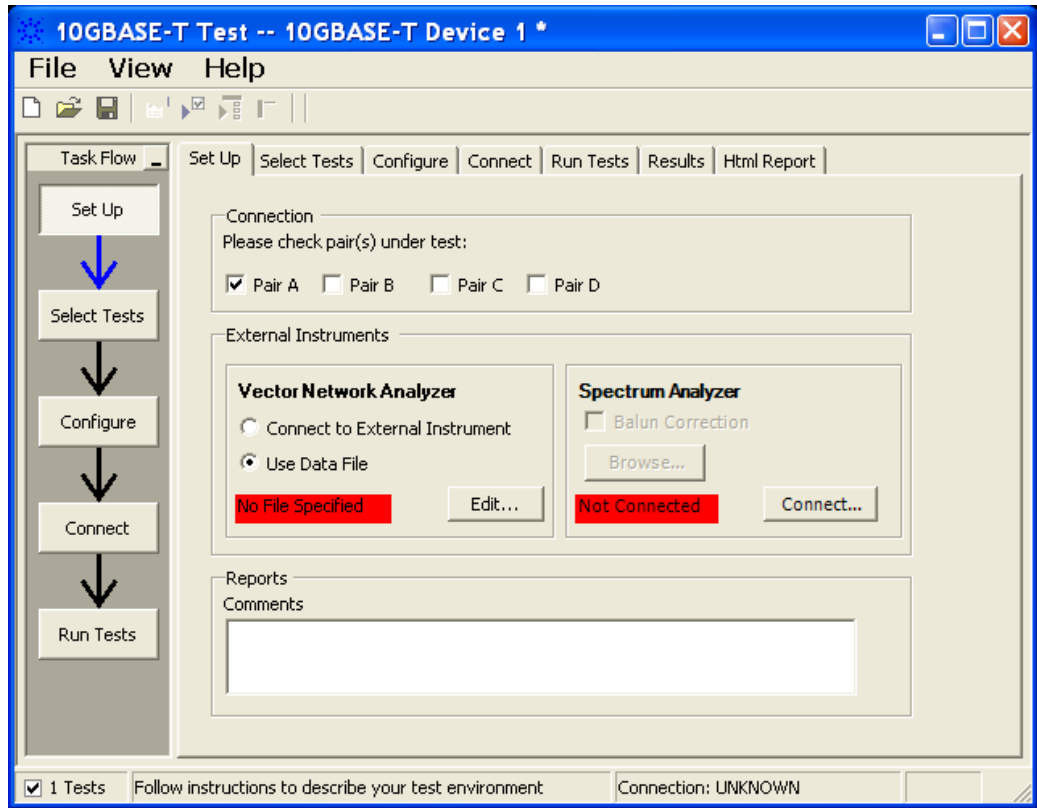

Figure 33 Use data file option for vector network analyzer
- 11 To do so, click on the Use Data File and the Edit button will appear, as shown in Figure 33. Click on this button to select the data file for each pair.